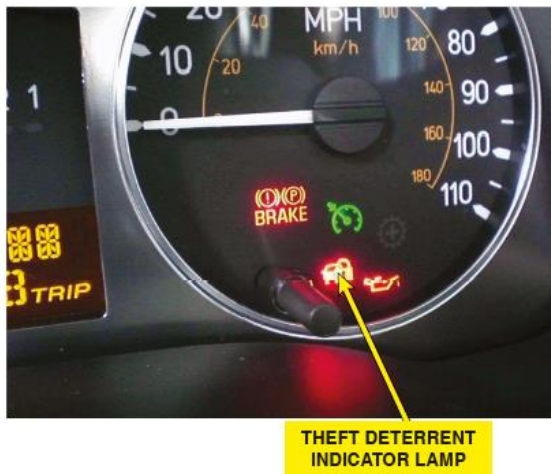

Figure 14. A theft deterrent indicator lamp on the dash. A flashing lamp usually indicates a fault in the system, and the engine may not start.
- Antitheft system fault. If the engine does not crank or start and the theft indicator light is on or flashing, there is likely a fault in the theft deterrent system. Figure 14.